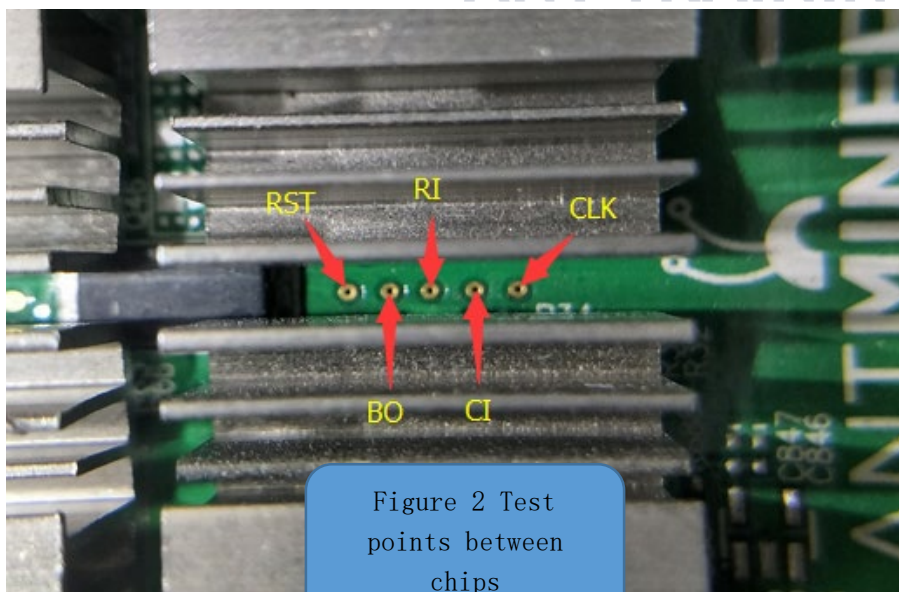

Figure 2 Test points between chips
2.2.1 Test points between chips (as shown below after amplified): Figure 2